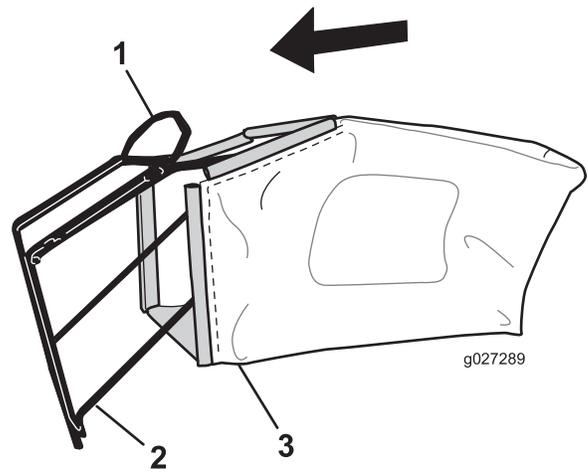

Figure 8
Note: Do not slip the bag over the handle (Figure 8).
1. Slip the grass bag over the frame as shown in Figure 8.